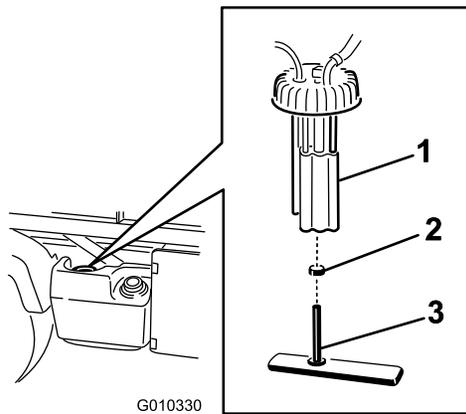

Figure 50
2. Unplug the wire harness connectors from the fuel pump (Figure 50).
3. Loosen the hose clamp and disconnect the fuel line from the fuel pump cap (Figure 50).
4. Un-thread the fuel pump cap from the top of the fuel tank (Figure 50).
5. Remove the fuel pump assembly and fuel filter from the tank (Figure 50).
6. Remove the clamp securing the fuel filter hose to the fuel pump fitting. Remove the hose from the fitting (Figure 50).